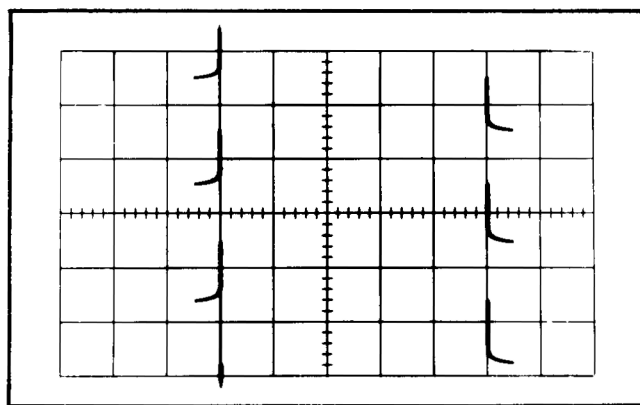

Fig. 5-10. Distortion obtained when C503C is misadjusted.
- c. Adjust C503C (see Fig. 5-2) for optimum square-wave response. The display should exhibit no more than  $\pm 3\%$  hook on the positive-going or negative-going leading corners of the calibrator waveform. When C503C is properly adjusted, the calibrator waveform should appear similar to the display shown in Fig. 5-9a. Fig. 5-10 shows one form of distortion obtained if C503C is misadjusted.